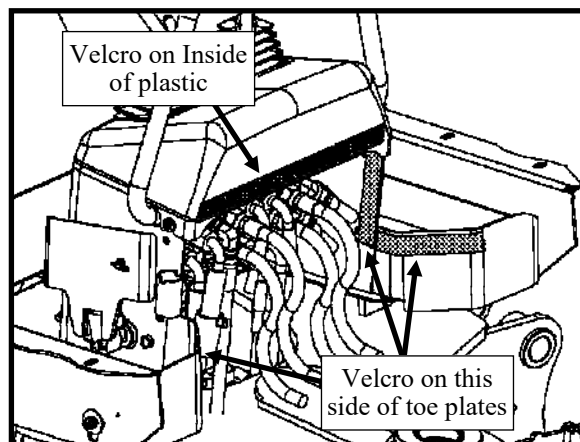

Figure 18.2: Attach Velcro to Backhoe
- 18.2 Attach the supplied velcro to the backhoe as shown in Figure 18.2. Be sure to clean the surfaces properly before installation. Note: the upper Velcro strip should go on the inside of the black plastic cover along the bottom edge of the plastic. The vinyl panel can be used as a guide.